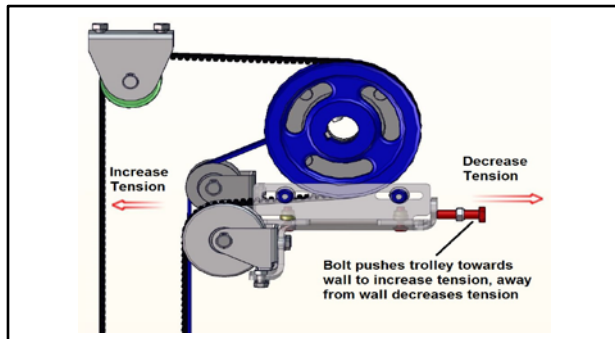

Figure 44
6. If additional tension on the L – Size door is required the trolley at the top of the side column can be adjusted for additional tension. (See Figure 44.)